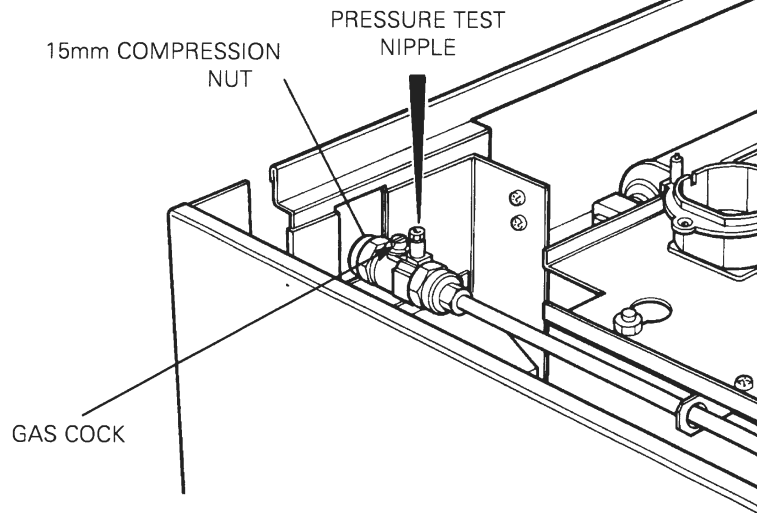

Fig. 10.4
1. Make final gas connection to the cooker (15 mm compression) into the combined gas cock/pressure test fitting (See **Fig. 10.4**).
The pressure test point is situated at the rear left hand side of the appliance just below hotplate level. (**Fig. 10.4**).